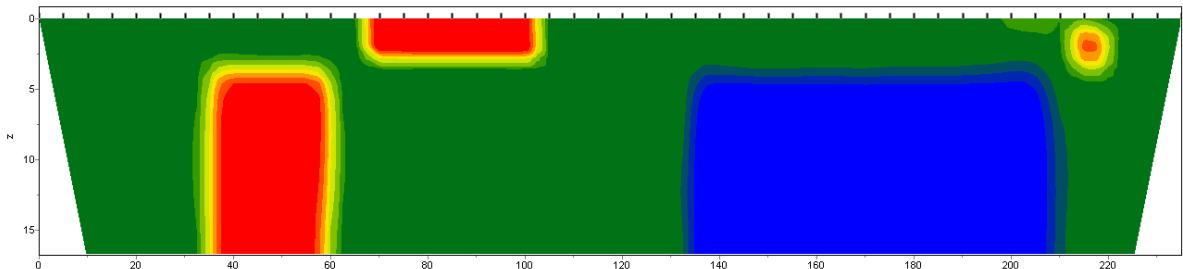

Fig. 42. Regenerated model as a result of **Focused** inversion.
**Focused** is inversion by least-square method with use of smoothing operator and additional contrast focusing [Portniaguine, 2000]. As a result of this algorithm piecewise smooth parameters distribution (that is model which consists of blocks with constant resistivity) can be received (fig.42).